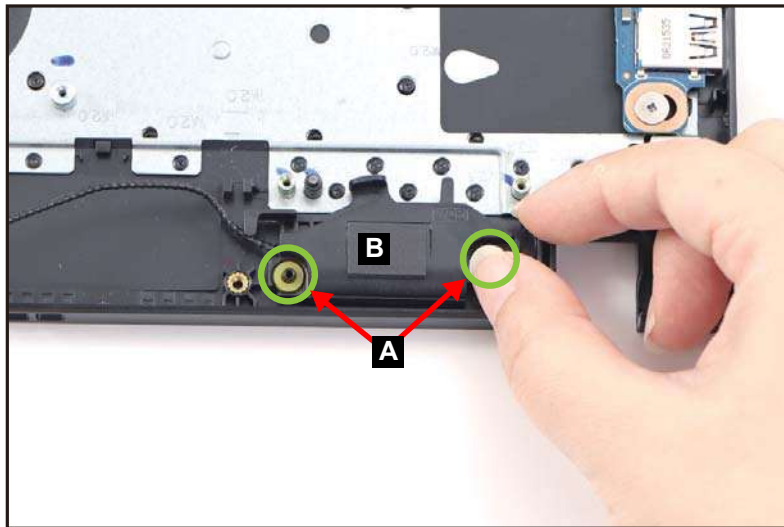

Figure 3-87. Replacing the Speaker Module
1. By aligning with the guide pins (A), install the right speaker (B) onto its compartment on the top assembly (Figure 3-87).